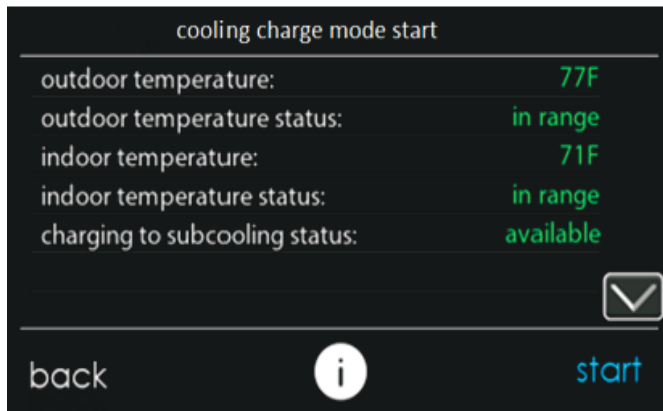
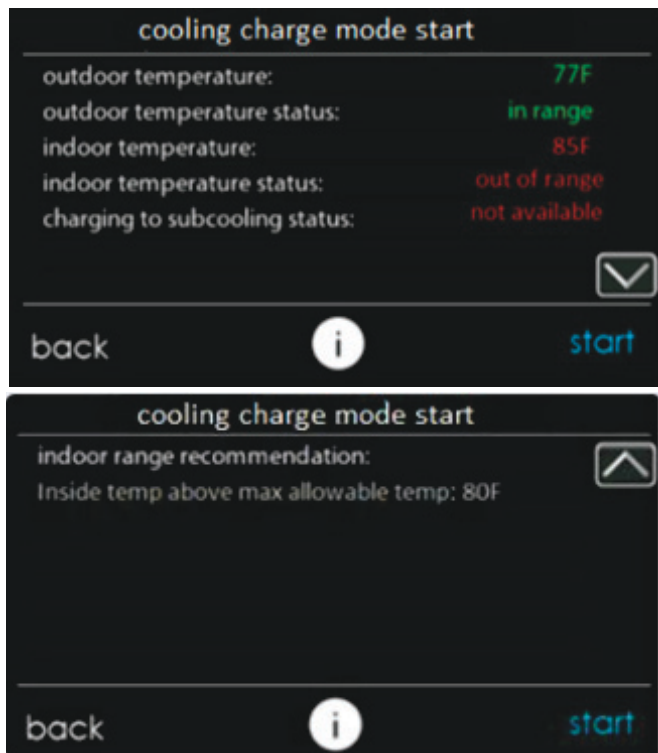

Fig. 17 – Cooling Charge Mode Start Screen - Subcooling Available
Fig. 18 – Cooling Charge Mode Start Screen - Subcooling Unavailable
8. The next screen, “cooling charge mode start” is shown in Fig. 17 or Fig. 18 depending on whether subcooling charging is available. The reason for unavailability of subcooling can be viewed by pressing the down arrow to go to the second page. Before selecting “Start”, verify that the service valves are open. Pressing start will turn on the system at a fixed set of operating parameters in COOLING mode.